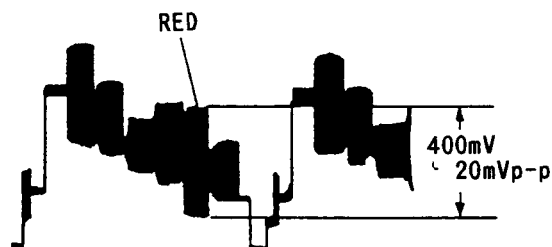

Fig. 2-19
(5) Chroma Gain Adjustment (Figs. 2-19, 2-20)
Press the **[Ctrl]** button and hold it down, then press the **[U]** and **[D]** keys so the red level is $400\text{mV} \pm 20\text{mVp-p}$. (Fig. 2-19)